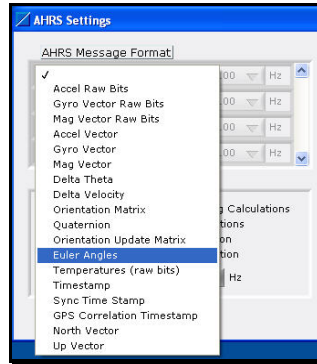

Figure 3 – AHRS Message Format menu
- Select Euler Angles in the AHRS Message Format pane by clicking the drop-down arrow as shown in *Figure 3*. Leave the default sampling rate of 100Hz as-is.